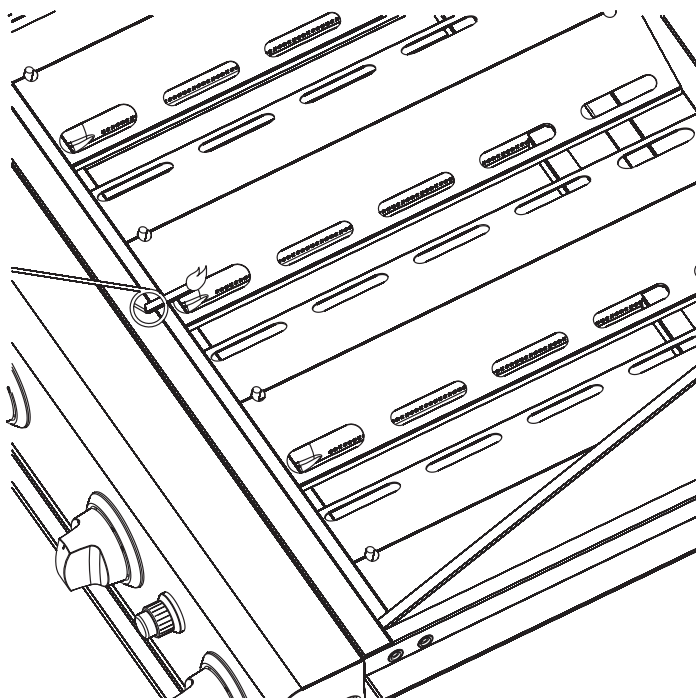

Figure 14
6. Insert the ignitor rod through the right hole located on the flame tamers of the grill. Position the match near the front corner of the burner. **See Figure 14.**